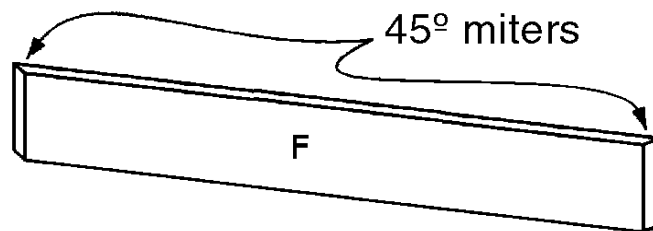

Figure 4
1. Carefully measure across the bottom of the cupboard. Add 1-1/2 inches to that measurement and cut one bottom trim (F) from 1 x 6 pine to the new measurement.
2. Miter both ends of the bottom trim (F) at opposing 45-degree angles, as shown in *Figure 4*.